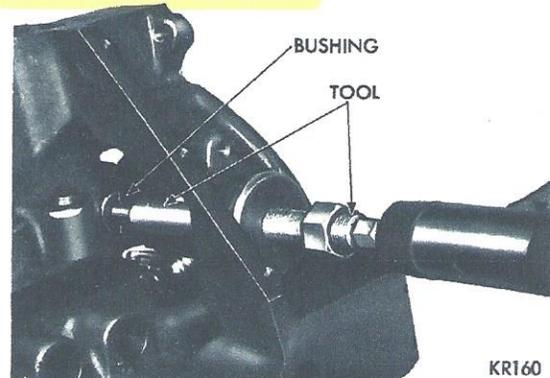

Fig. 32—Installing Distributor Drive Shaft Bushing
- (1) Slide a new bushing over burnishing end of Tool C-3053 and insert tool bushing into the bore.
- (2) Drive bushing and tool into position, using a hammer (Fig. 32).